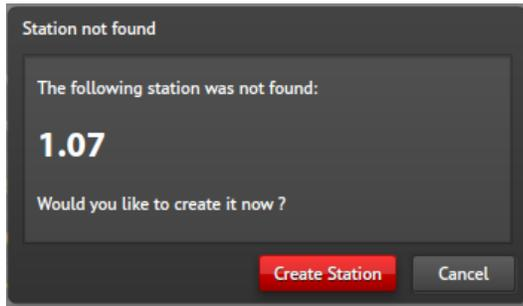

Figure 23. Station Not Found Dialog Box
**Search Button**—The search button locates the stations that are already defined in the configuration. Enter a valid station ID with the format G.SS, where G is the group number to which the station belongs and SS is the station number in that group. The **SEARCH** button becomes active when a valid station ID has been entered. If the station identifier exists, the utility display's that station's **STATION VIEW** panel. See the Station View Panel section of this manual for information specific to configuring a station with unique properties. If the station is not found then the utility prompts to add the station to the configuration as shown in Figure 23. Click the **CREATE STATION** button to add the station's ID to the configuration or **CANCEL** to exit the dialog box without adding the station to the configuration. Adding the station will open that station's **STATION VIEW PANEL**.